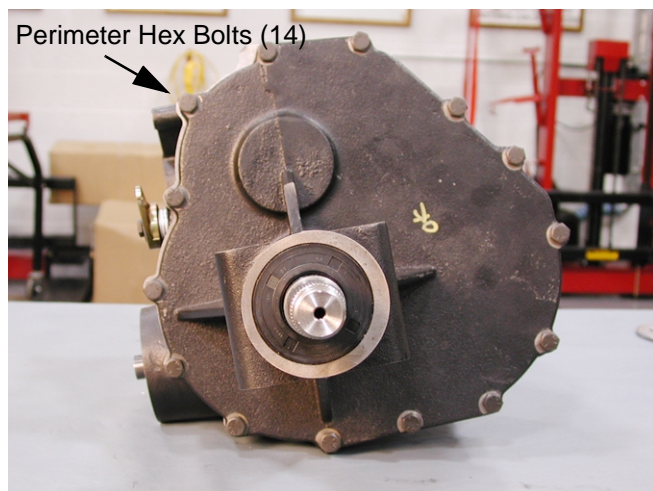

Figure 18
26. Remove all 14 hex bolts securing the left housing to the right housing using a 1/2" socket. See Figure 18.